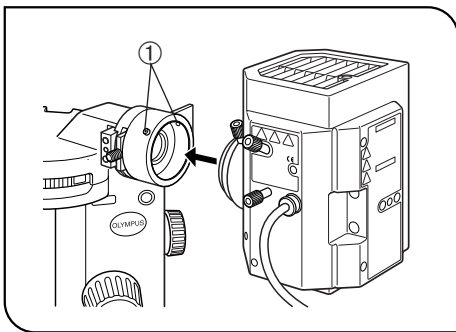

Fig. 13
1. Using the Allen screwdriver, loosen the two clamping screws ① on the lamp housing mount hole.
2. Fit the lamp housing all the way into the hole as shown in Fig. 13.
3. Tighten the clamping screws ① using the Allen screwdriver.